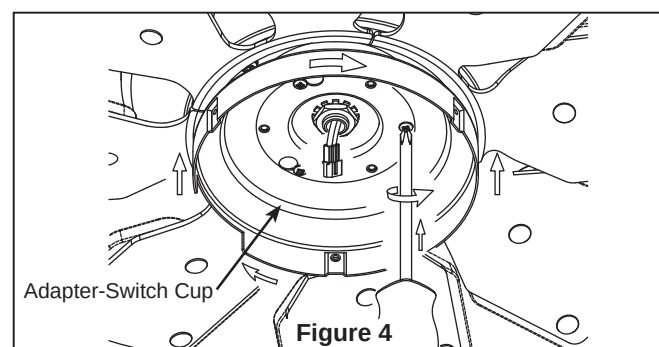

Figure 4
4. Attach the adapter-switch cup to the support flange using three of the previously removed six screws and fully tighten. (Figure 4)
- ☐ **4. Remote Control Setting and Speed (RPM) Setting Process : (Figure 4)**